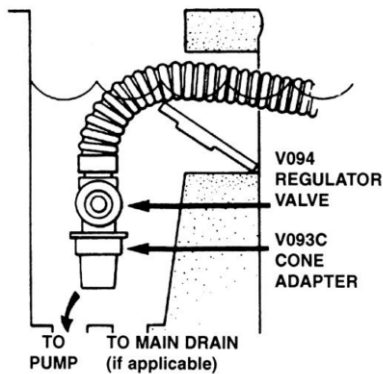

Figure 4
Check the water flow reading on the flow gauge. (Refer to Step 4, Figure 2). The black disk should be in the box between the "MIN" and "MAX" markings. If the setting is higher than required with the black disk outside of the box on the "MAX" side and you have connected your hose to the skimmer, it will be necessary to reduce the vacuum/water flow by making an adjustment to a valve or valves for the filter system, add the Hayward (V094) regulator valve or the optional Hayward automatic skimmer vacuum plate. In order to install the (V094) regulator valve it is necessary to turn the filter system off. Remove the hose from the (V093C) skimmer cone and completely close the regulator valve by rotating the blue collar clockwise until tight. Insert the regulator valve into the skimmer cone and insert the hose end into the regulator valve (See Figure 4).
Many skimmers have two (2) holes in the bottom. There may be a float valve or cover plate over the holes. Remove everything in the skimmer, exposing the holes. The rear hole is usually the suction port. In some cases it will be necessary to use the (V094) regulator valve to control water flow to the Hayward Blu cleaner (See Figure 4).